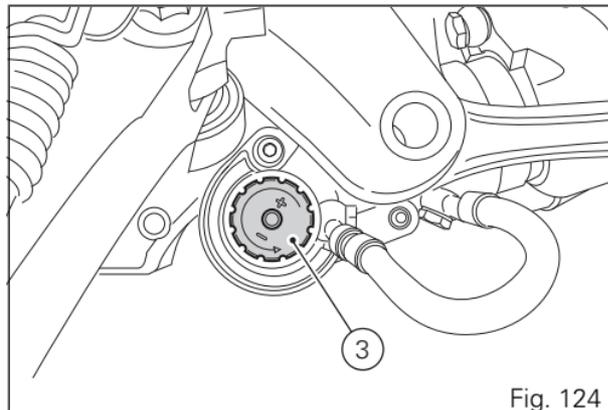

Fig. 124
The knob (3, Fig. 124), located on the expansion reservoir of the shock absorber, adjusts the damping during the compression phase. Turn the adjusters (1) with a screwdriver or the knobs (2) and (3) clockwise to obtain a harder setting or increase preload. Turn them counter-clockwise to obtain the opposite setting.